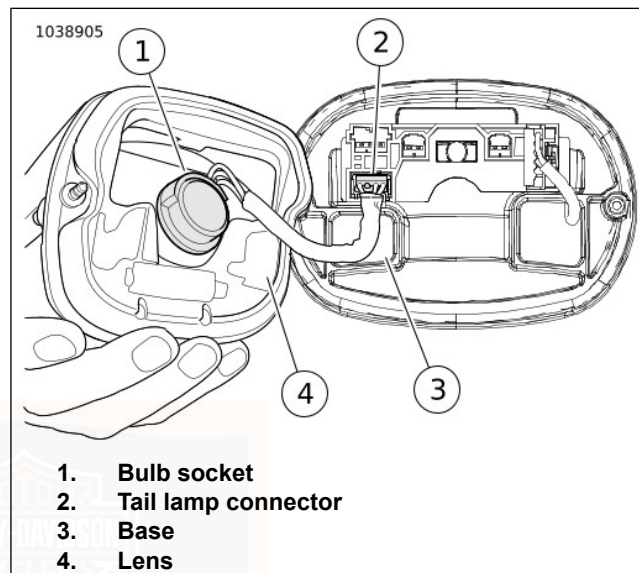

Figure 82. Incandescent Tail Lamp Assembly
2. See Figure 82. Disconnect tail lamp connector (3).
3. Rotate bulb socket (4) a quarter turn counterclockwise and remove from tail lamp assembly. Remove bulb.
2. See Figure 82. Insert socket (4) into tail lamp assembly. Rotate a quarter turn clockwise.
3. Attach tail lamp connector (3).